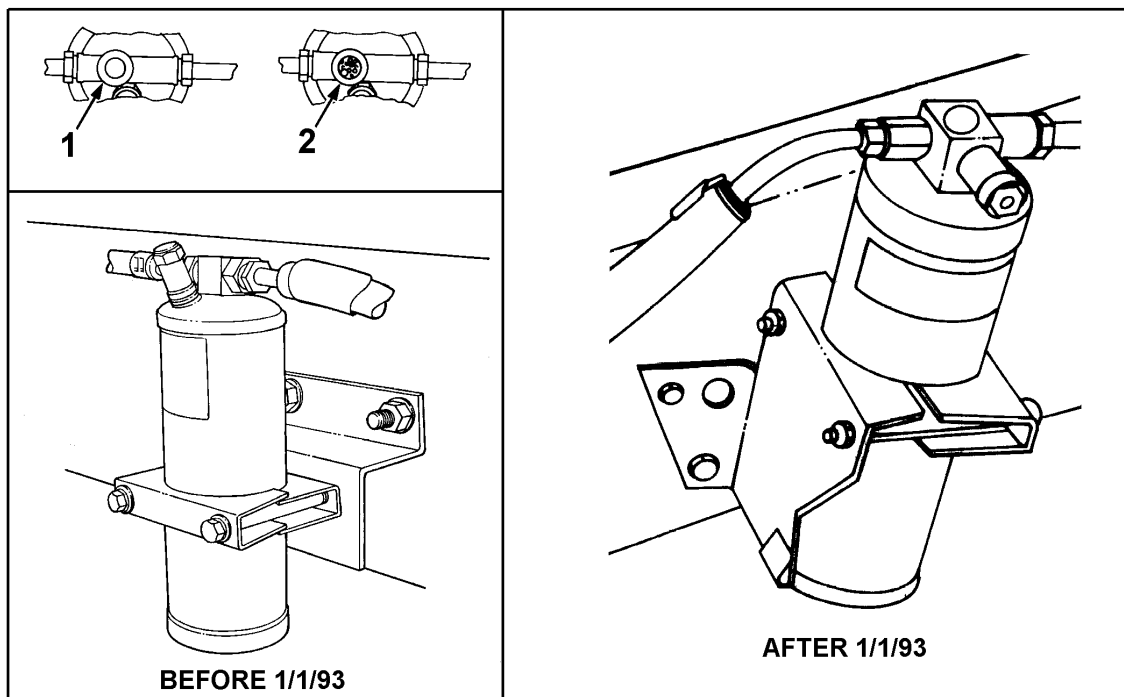

Figure 10 Sight Glass in Receiver-Dehydrator
2. Observe the sight glass in the receiver-dehydrator for bubbles (Figure 10). The sight glass should appear clear. If not, see GROUP 16-AIR CONDITIONING THEORY, SYSTEM DIAGNOSIS AND SERVICE in the Master Service Manual, for the vehicle being serviced.